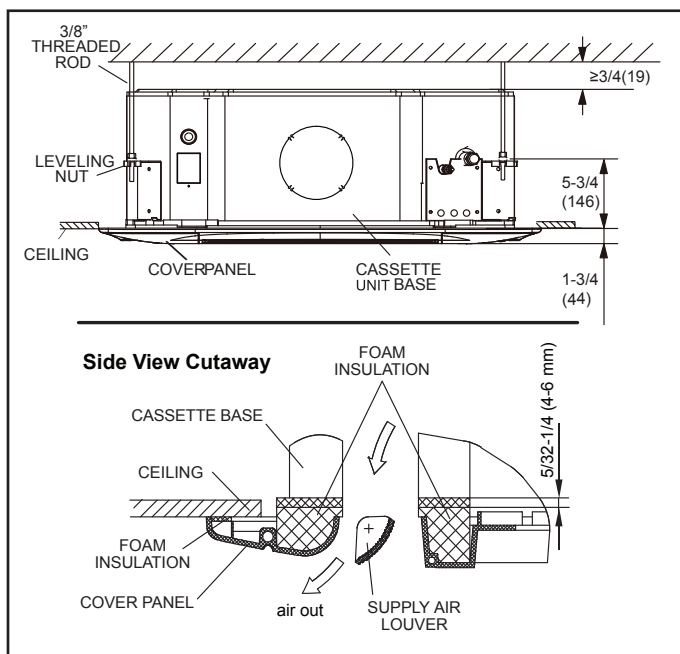

Figure 24. Cover Panel in Place
10. Continue to tighten the cover panel securing screws until the insulation between the cover panel and the cassette base has been compressed to approximately $\frac{1}{4}$ ". The cover panel must form a seal with the ceiling and the cassette base around the entire perimeter of the unit. See Figure 24.